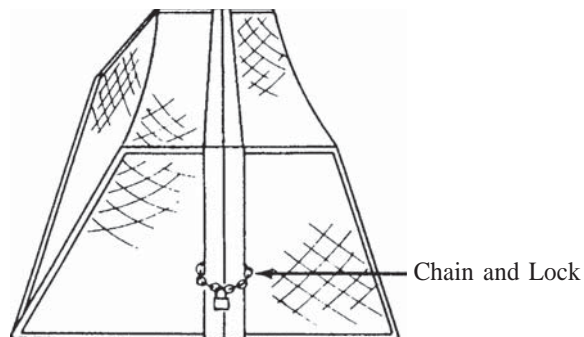

Figure 4.1: Join Goal Faces and Lock Together Using Chain and Lock
- 1) Place the goal frames face to face and secure them at each goalpost with a lock and chain (see Figure 4.1),